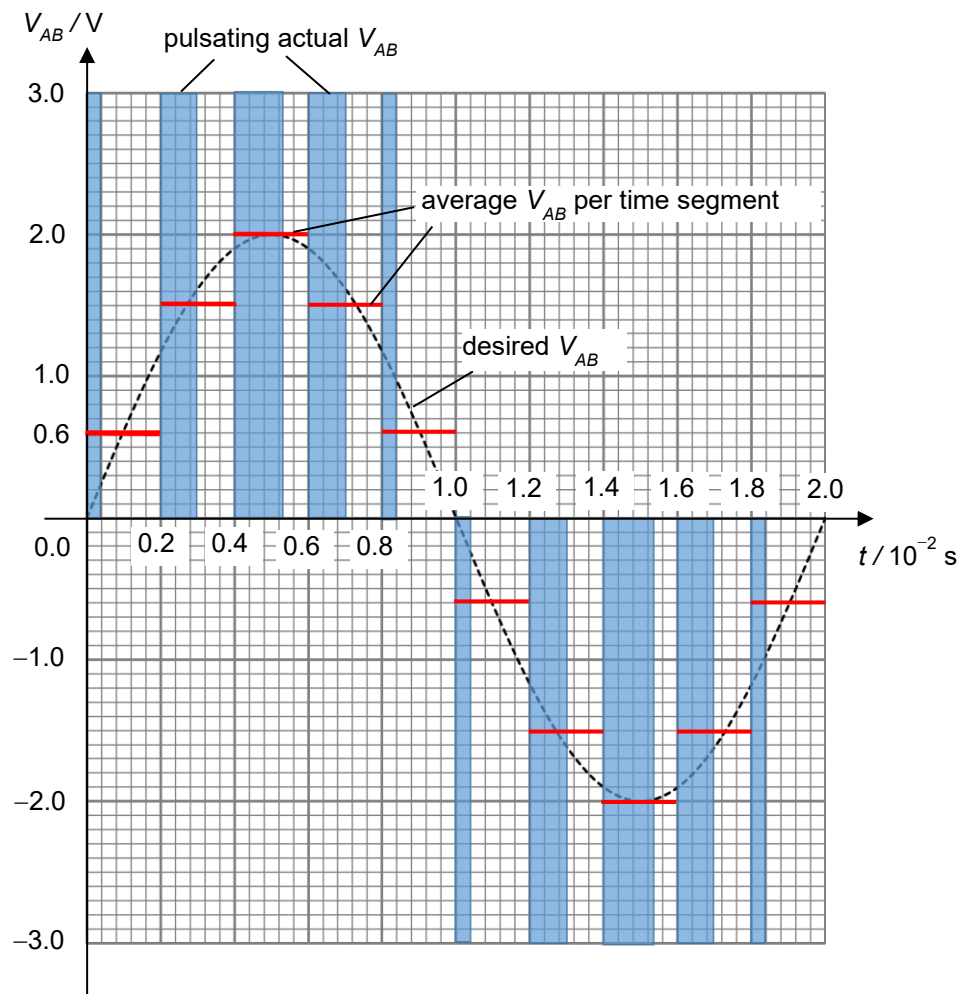

Fig. 8.4
To produce an output waveform that resembles a sinusoidal waveform, the opening and closing of the switches are specially programmed. While one pair of switches is open, the other pair of switches does not just stay closed for the duration of the half-cycle. Instead, they are made to rapidly open and close multiple times in a pulsating pattern. Each pulse varies in width, as shown in Fig. 8.4. This is known as *Pulse Width Modulation*.
- Using information from Fig. 8.4, show that the average output voltage V_{AB} for the time segment $0.00 \leq t \leq 0.20 \times 10^{-2}$ s is 0.60 V.